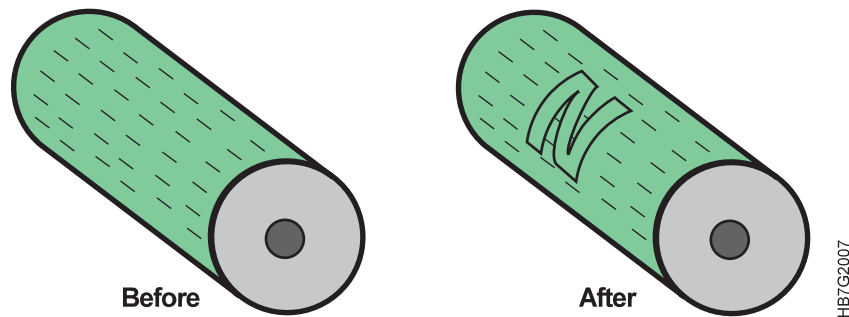

Figure 6. Image Formation
- The printed image is formed by transmitting light on the drum's surface in the areas where the image should be and no light where the paper should remain white. In areas where the drum is exposed to light, the organic photoconductor layer becomes conductive, flows the charges to the ground, and forms a "latent electrostatic image," as shown in Figure 6.